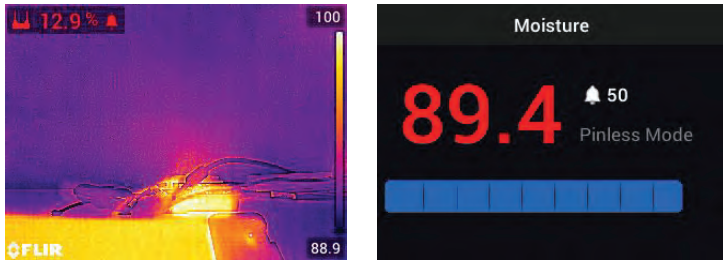

Figure 7.14 Moisture Alarm display examples
- When the measurement exceeds the threshold, the text for the measurement reading will appear red in color. Note that in the Moisture-only mode, the larger digits appear in red when the alarm limit is exceeded. See **Figure 7-14** below.